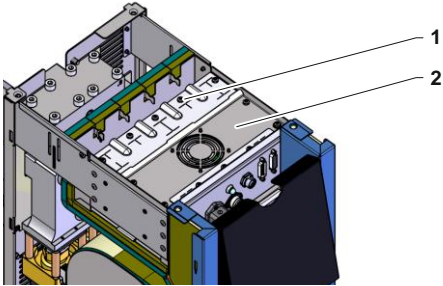

Fig. 1: Access to electrical part components
4. Remove the 12 screws, (label 1 → Fig. 1) from the electrical part and then lift the cover (label 2 → Fig. 1).
5. Disconnect fan cable from VFC-51 (A11) and remove cover (label 2 → Fig. 1).